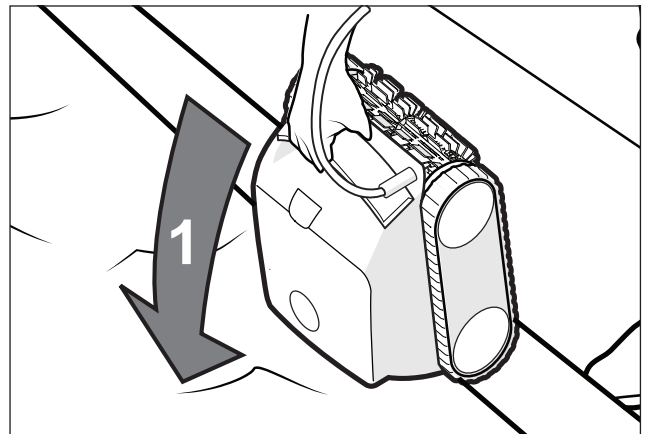

Figure 3. Submerge the Cleaner Vertically
2. At the center point, submerge the cleaner in the pool and hold in the vertical position to release any air trapped inside. (Figure 3).